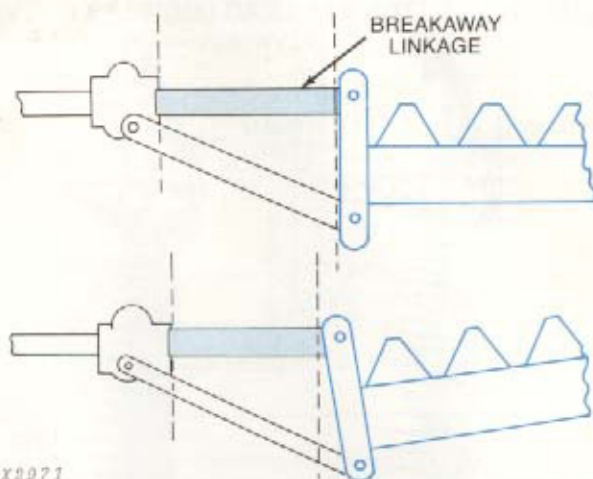

Fig. 29 — Shortening Length Of Breakaway Linkage
3. Shorten the length between breakaway linkage and clamps (Fig. 29).